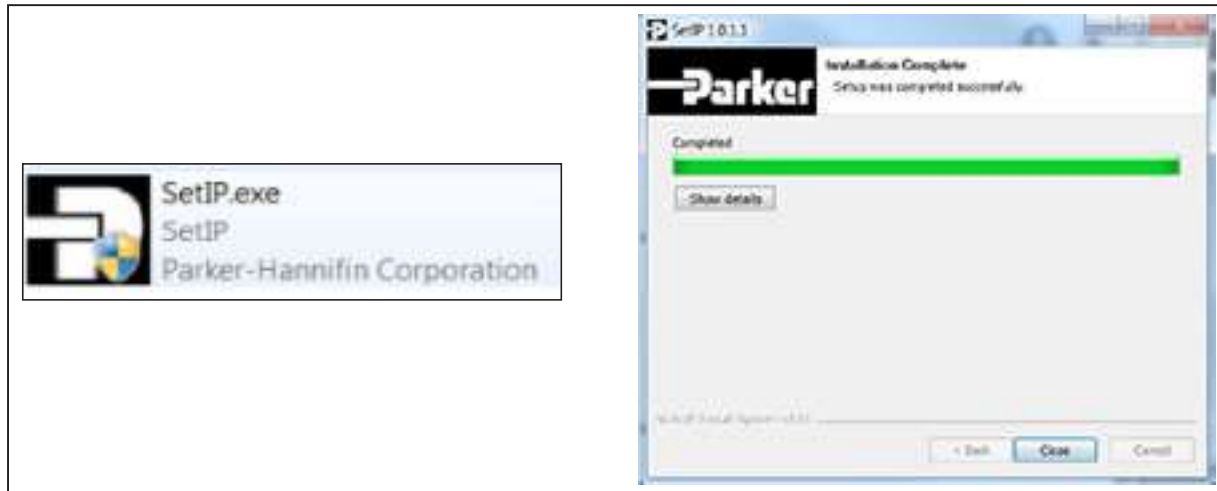

Figure 4 - SetIP Icon and SetIP Completed
- 1.6. Click on the **SetIP** icon to open the program. See Figure 4.
- 1.8. Close the application when finished. See Figure 4.